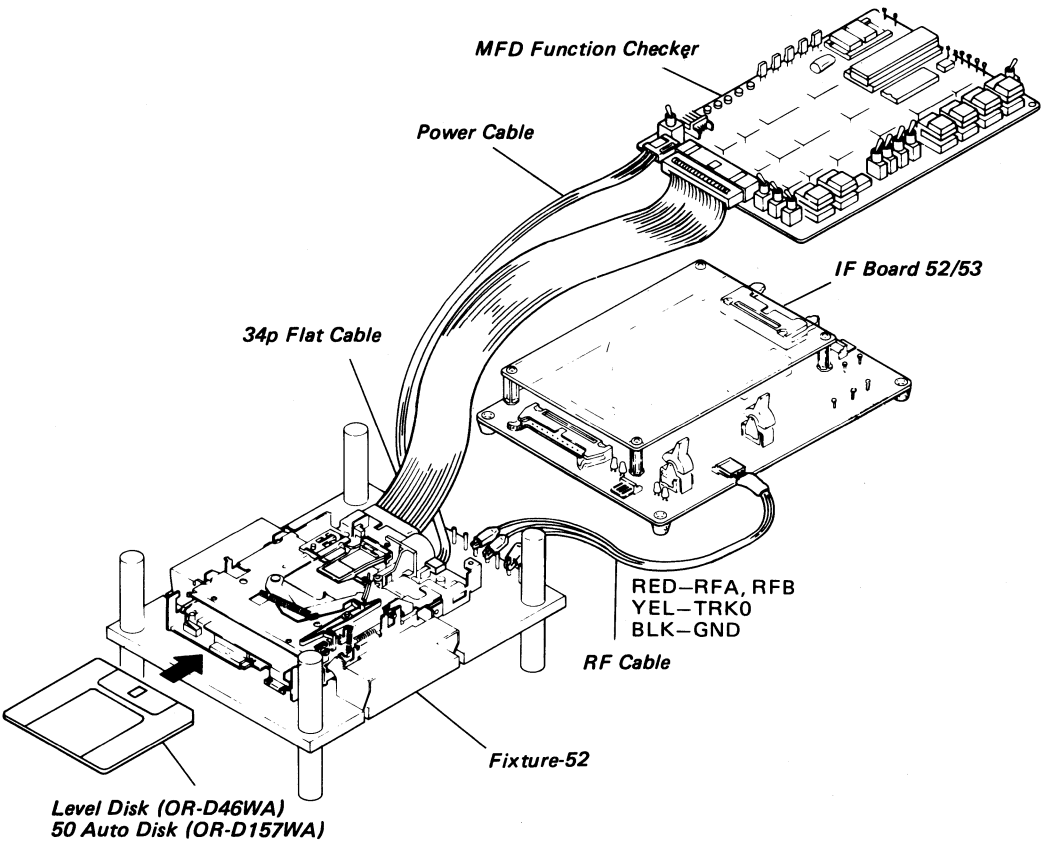

Fig. 2-10 Configuration for Function Check
- 1) Referring to Fig. 2-10 (Micro Floppydisk Drive Connection), connect the drive to MFD Function Checker.